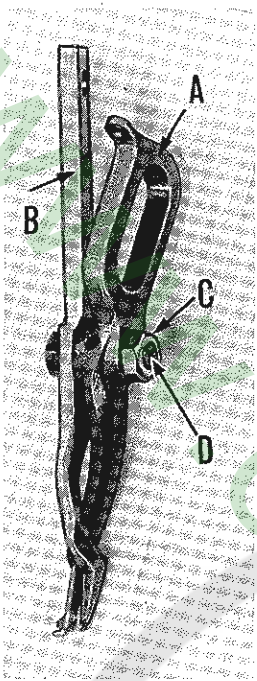

Fig. 18
If it is found that the looper (B, Fig. 18) and spreader (A) are skipping stitches, an